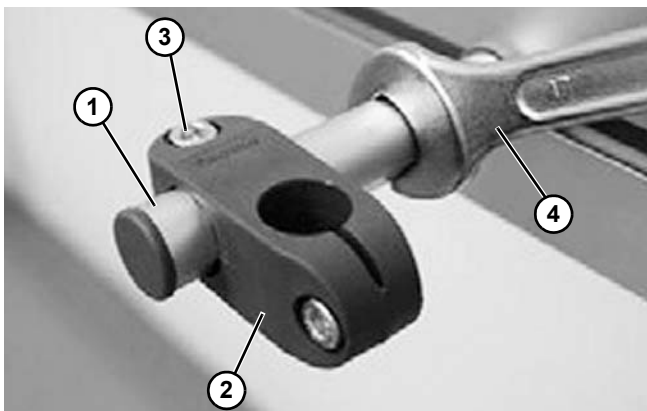

Figure 89
2. Attach the guide rail (**Figure 89, item 1**) to the clamp (**Figure 89, item 2**). Tighten the screw (**Figure 89, item 3**). Remember, do not over tighten the screw.
3. Use a wrench (**Figure 89, item 4**) to tighten the guide rail to the frame. Remember, do not over tighten the screw. Install remaining brackets.